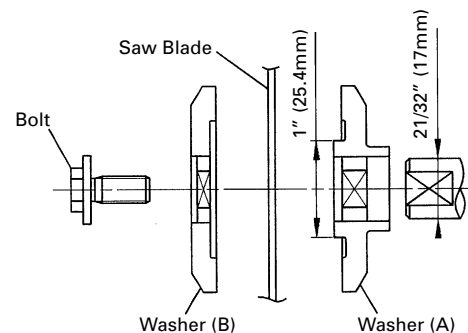

Fig. 37-d
- (7) Press in the spindle lock and tighten the bolt by turning it to the left by standard accessories wrench (17mm box wrench) as indicated in Fig. 37-c.